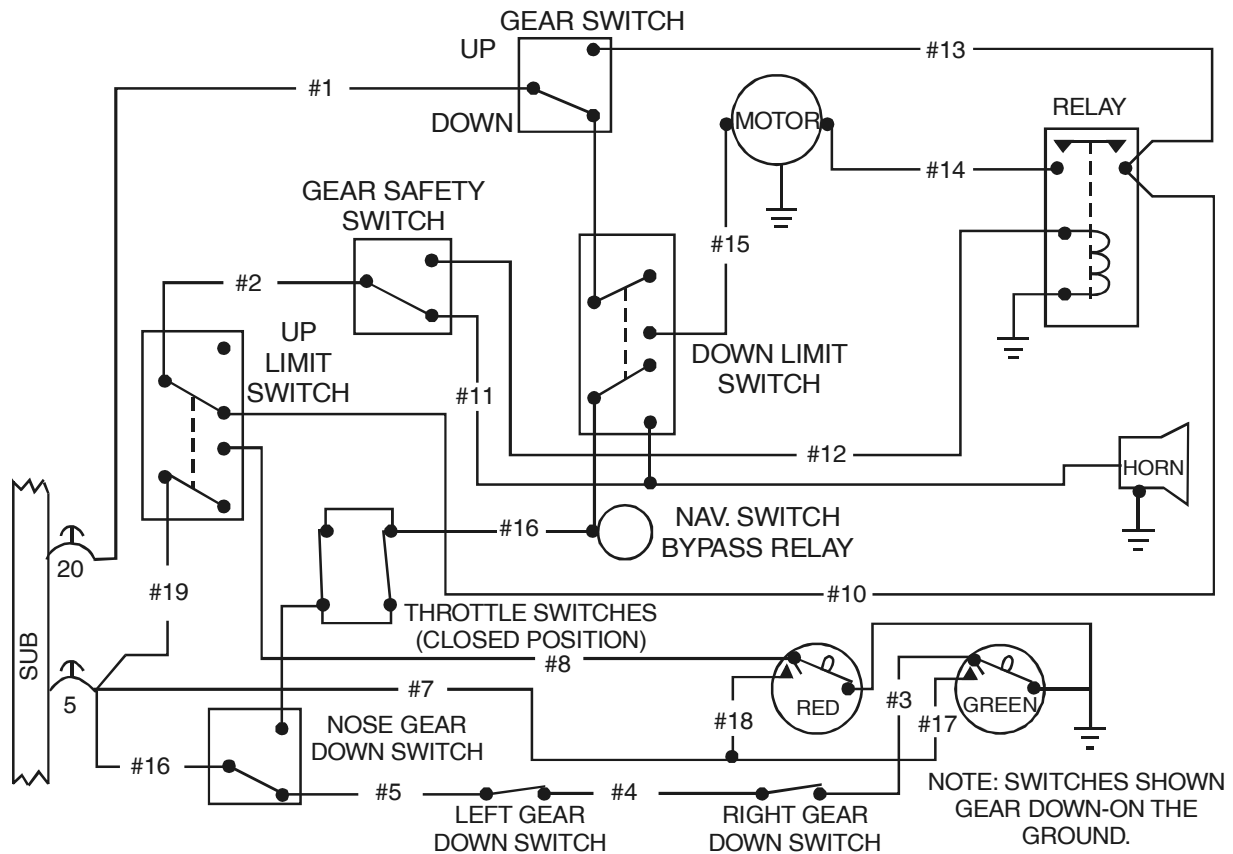

Figure 9.34
18. (Refer to figure 9.34) What is the indication of the red landing gear position light under the following conditions?
19. (Refer to figure 9.34). Which repair should be made if the gear switch was placed in UP position and the gear does not retract?